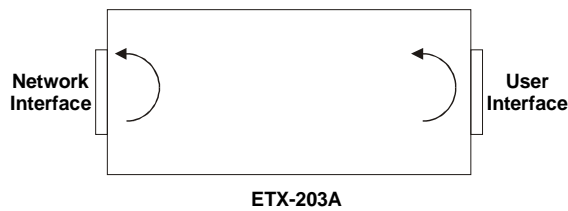

Figure 6-6. Remote Loopback
- Remote – Loopback is closed towards the network interface (Figure 6-6).